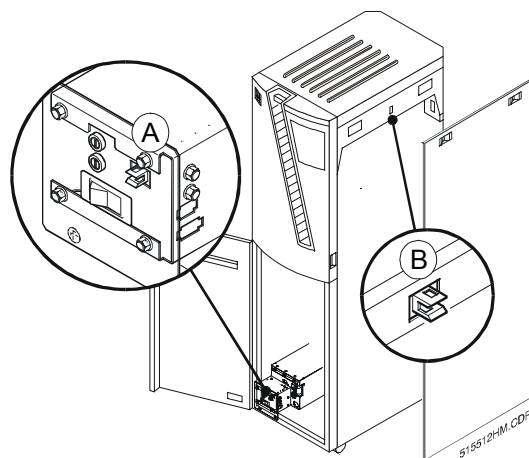

Figure 2
- (1) Check both interlock switches **A** and **B**, Figure 2.